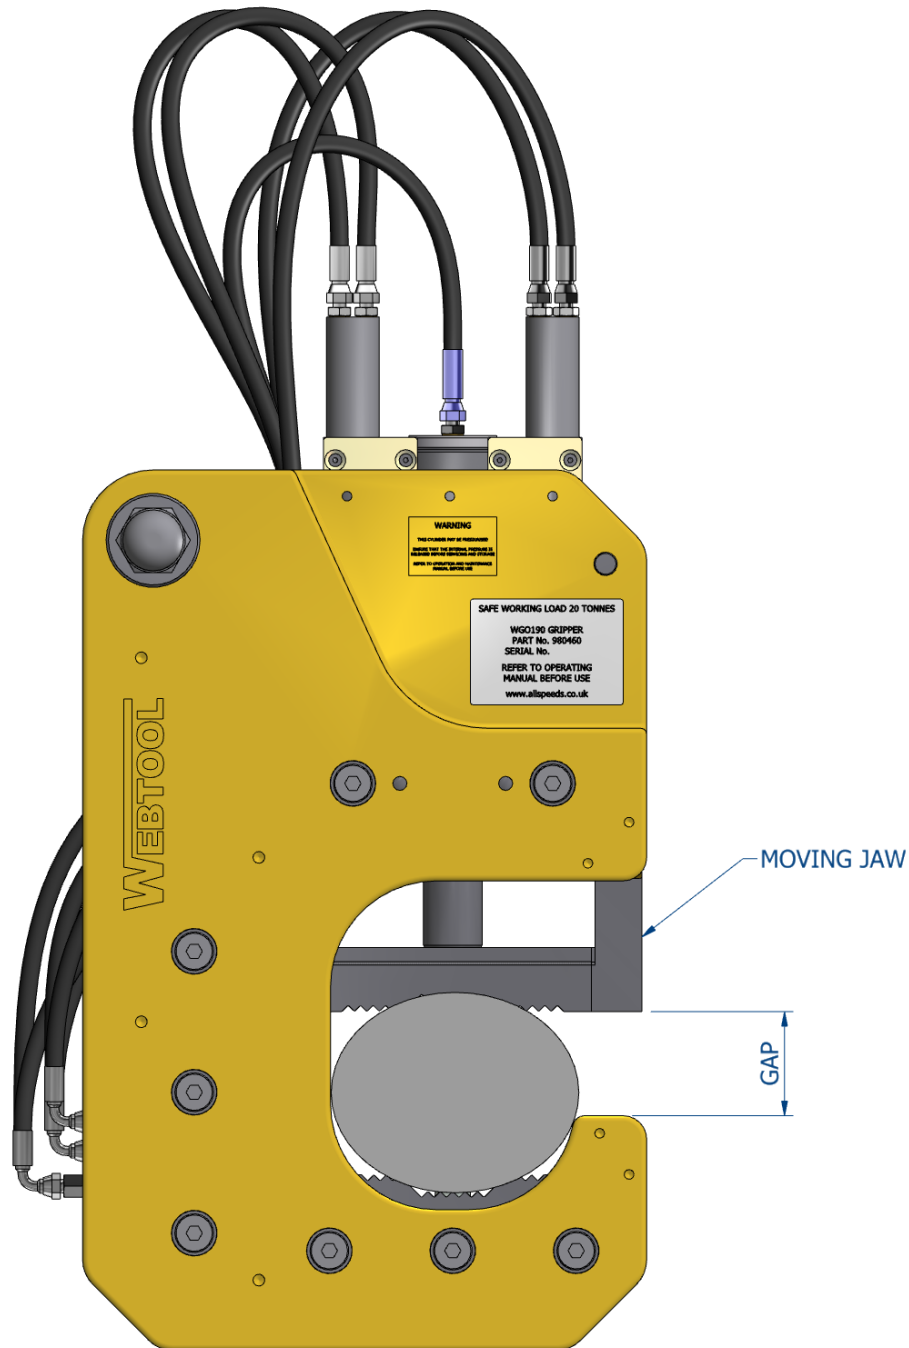

Figure 5 – Wire fully gripped –Moving jaw is no longer moving
4. Keep the “Jaw Closed” port pressurised until the moving jaw has fully gripped the wire and will go no further as shown in figure 5. Please note that the gap shown will differ due to the dimensions and flexibility of the cable or rope being gripped.